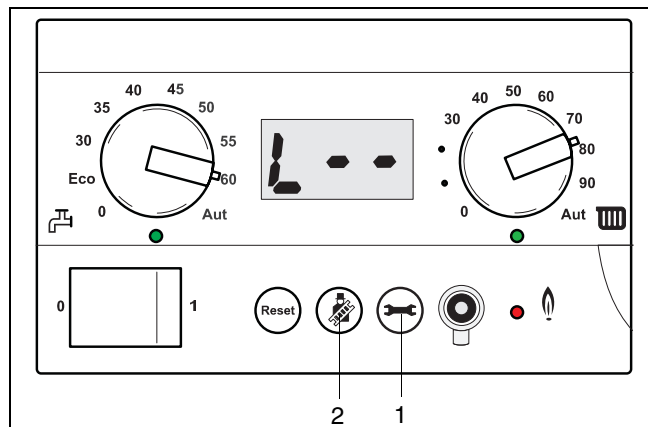

fig. 39 Maximum heating capacity
- Press the chimney sweep button and the service button at the same time until "L--" (see fig. 39) appears in the display.
- Confirm the setting by pressing the service button two times (see fig. 39, item 1).